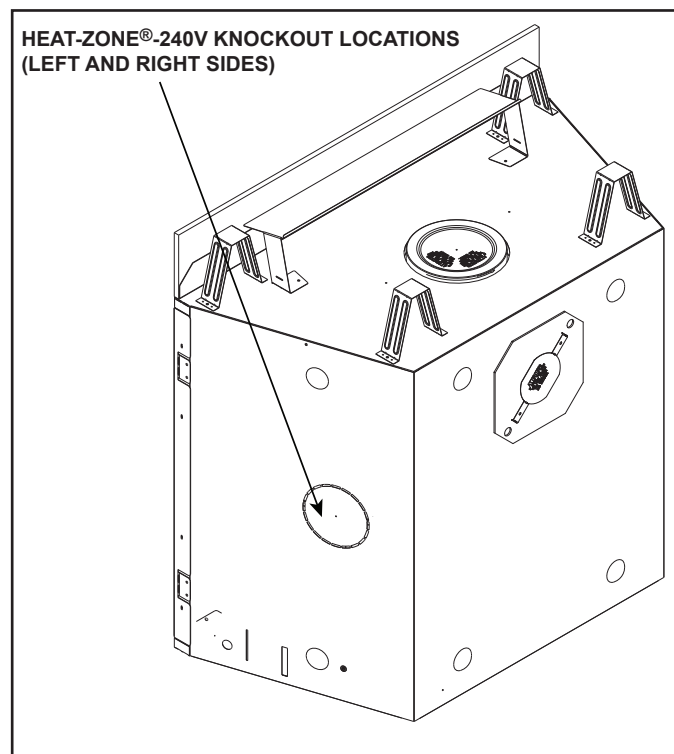

Figure 6.12 Heat-Zone®-240V Knockout Locations
- Remove the knockout from the fireplace and discard it. See Figure 6.12.